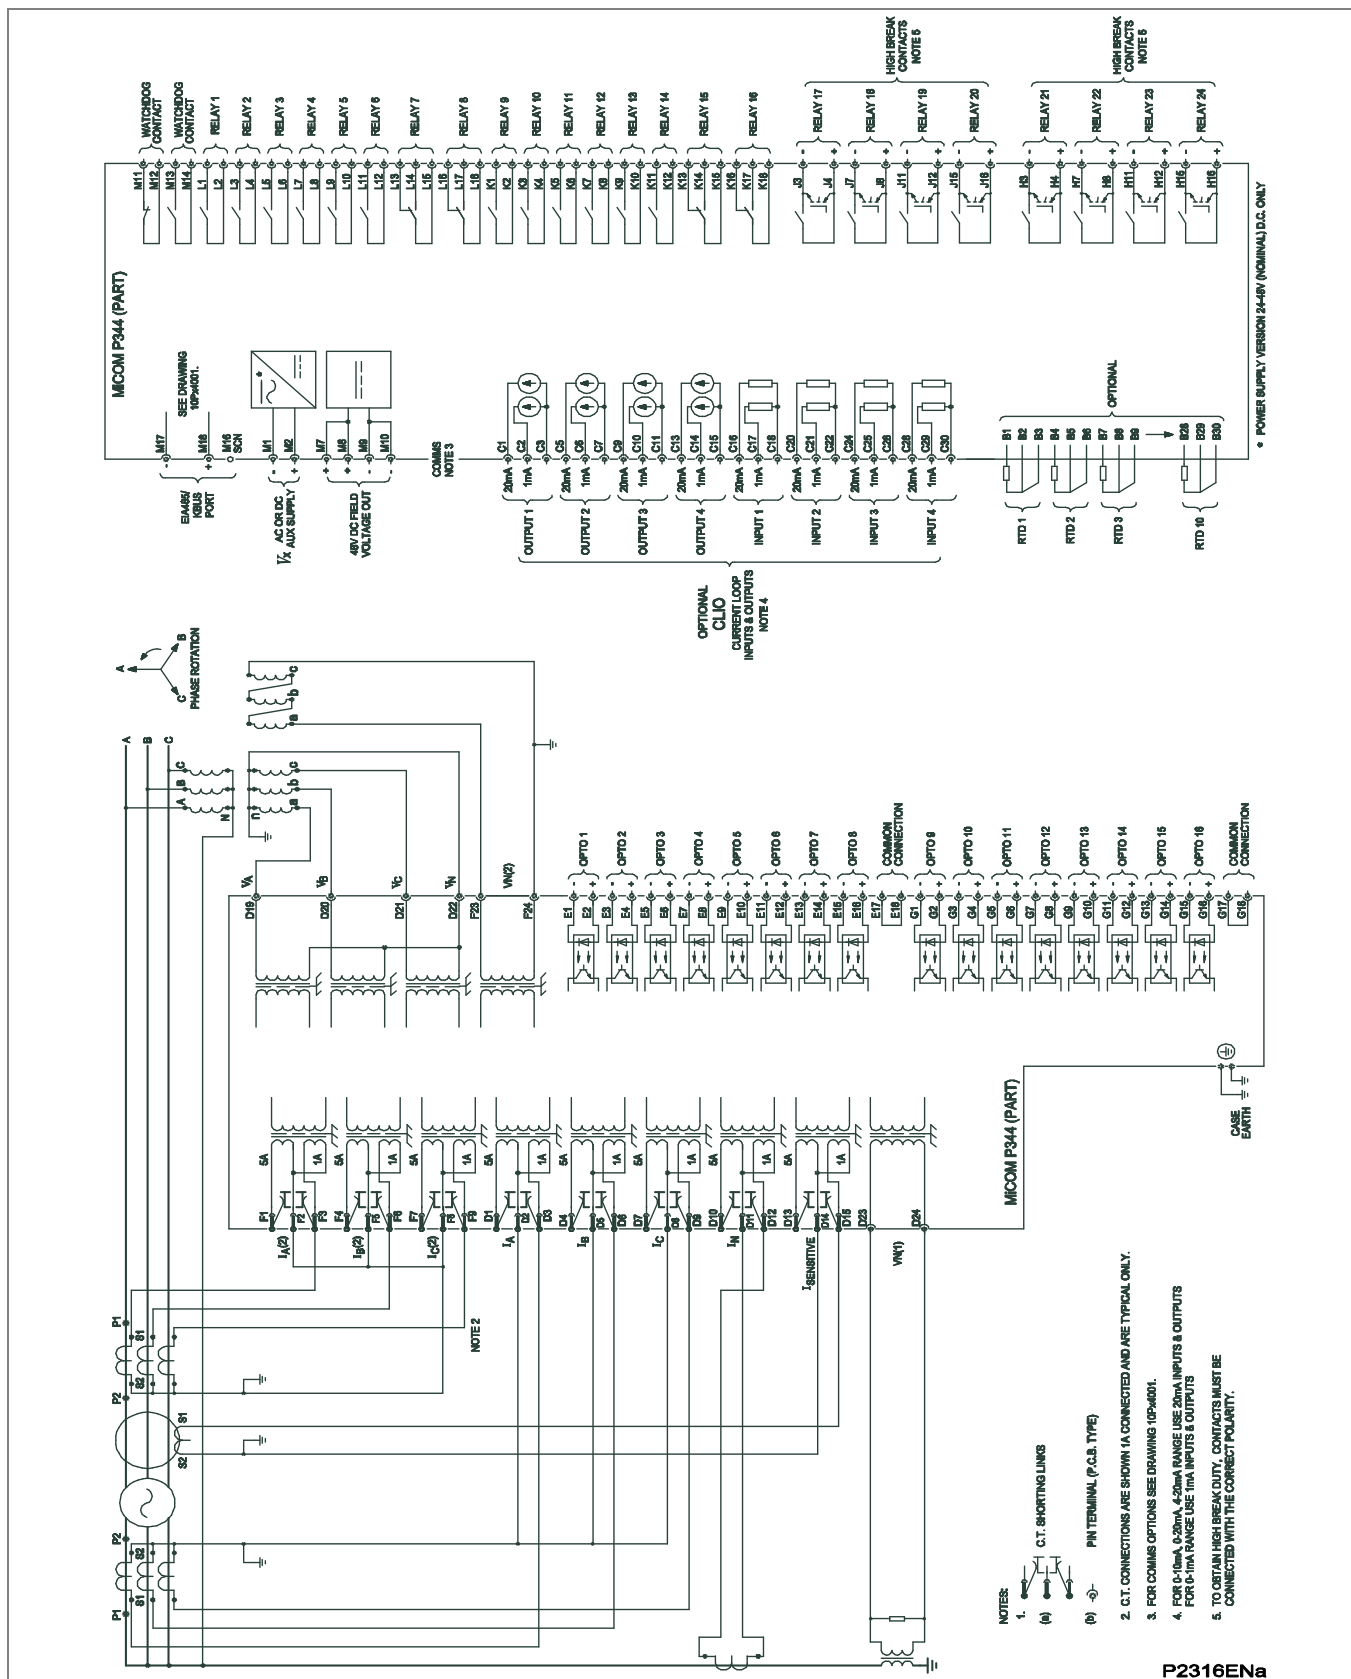

Figure 48 - P344 (80TE) with biased differential and zero sequence voltage interturn (16 I/P & 24 O/P (8HB) & RTD's & CLIO)
- Figure 48 - P344 (80TE) with biased differential and zero sequence voltage interturn (16 I/P & 24 O/P (8HB) & RTD's & CLIO)